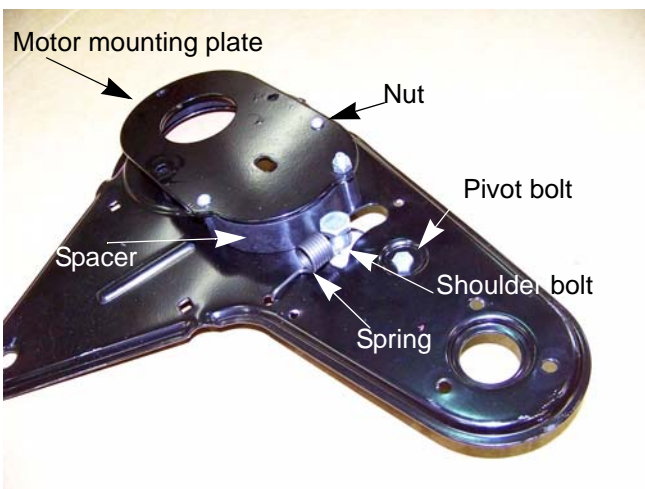

Figure 4.18
11. Remove the nut and bolt that holds the spacer and motor mounting plate to the side panel using a pair of 10mm wrenches. See Figure 4.18.